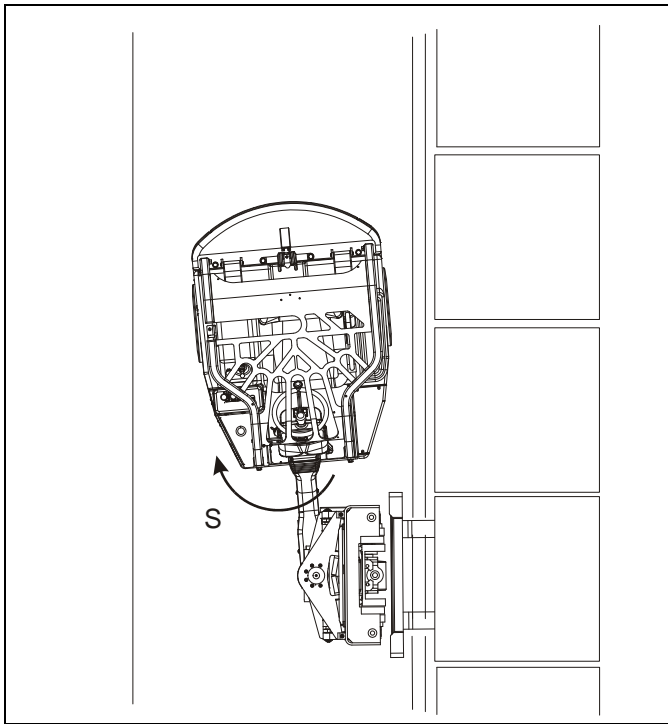

Figure 4-13: Inserting the Forks into the Load
7. Straighten out the forks using the steering wheel as you drive them into the load so the forks enter the load in a straight line. See Figure 4-13.